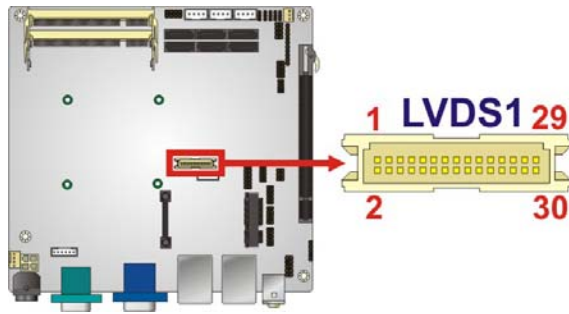

Figure 3-11: LVDS LCD Connector Pinout Location
- CN Location:** See **Figure 3-11**